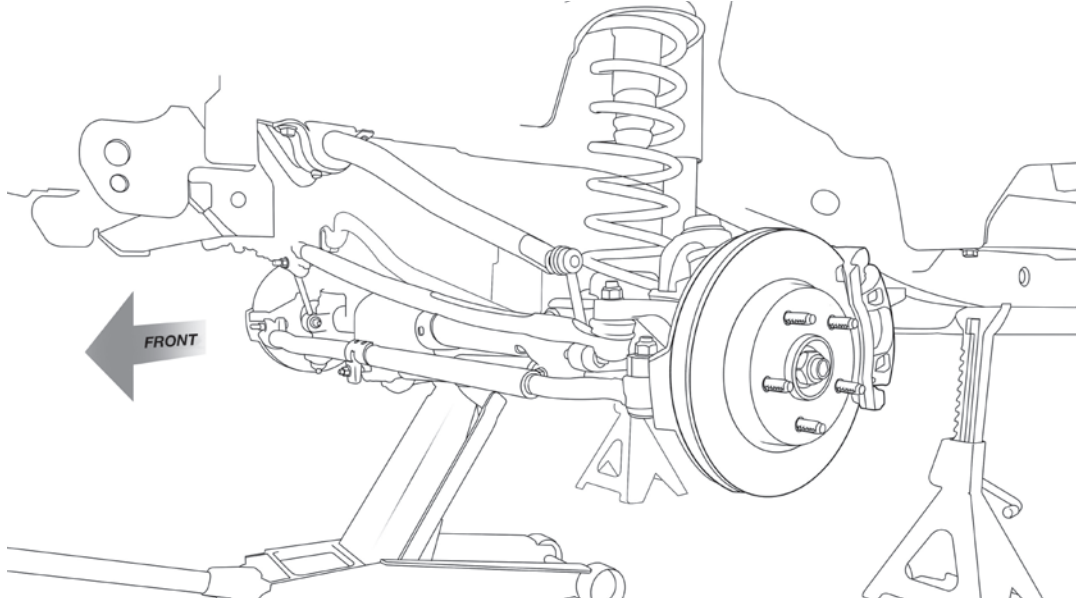

Figure 12
1. Raise Jeep and support the frame using jack stands or a hoist, such that the front axle can be lowered enough to remove the springs. Support the axle by placing floor jack under the center of the axle. Remove the wheels (Fig. 12).